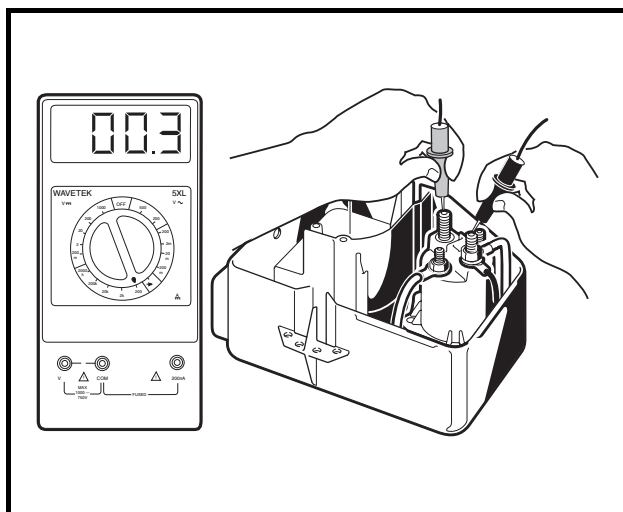

Figure 12-10 Solenoid Continuity Test
6. Set the multimeter to 200 ohms. Connect the red (+) probe to one of the large posts of the solenoid and connect the black (–) probe to the other large post (**Figure 12-10, Page 12-15**).